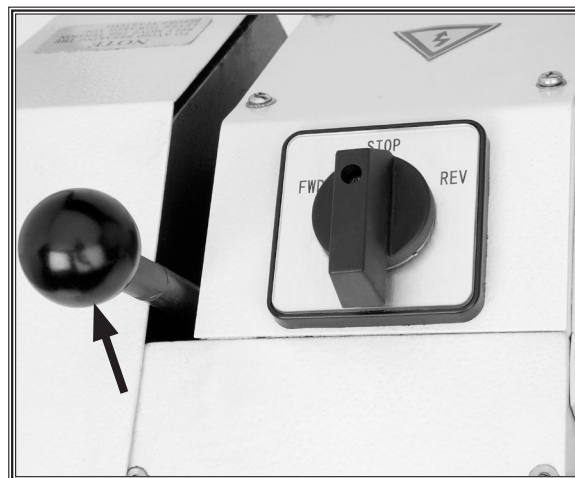

Figure 46. Belt tension lever.
3. Move the belt tension lever shown **Figure 46** to release belt tension.
3. Move the belt tension lever shown in **Figure 46** to release belt tension.